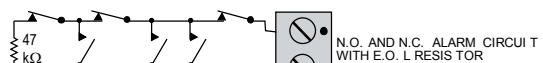

Figure 3 - E.O.L. Wiring Example
3.2 Auxiliary Input Wiring (Fig. 3)
- C. For E.O.L. supervision, set SW2 to ON. Normally Closed (N.C.) as well as Normally Open (N.O.) sensor contacts can be used, as show in figure 3. A 47kΩ E.O.L. resistor must be wired at the far end of the zone loop.